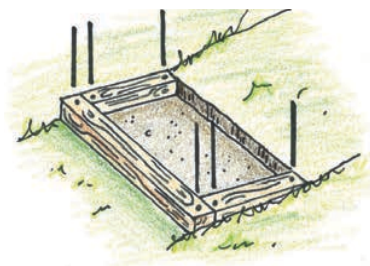

Figure 4
as long as the step width and two timbers as long as the step depth for the side timbers (remember that each step should extend six inches past the next step's riser.) Drill  $\frac{1}{2}$ -inch diameter holes approximately six inches from the ends of each timber (Figure 4).
**STEP 5 – Position timbers.** Position the timbers in the step and remove or add soil as needed to level them (Figure 4).
**STEP 6 – Anchor timbers.** Drive the steel rebar through the drilled holes on the end of each timber and into the ground. Make sure the rebar is level with the timber surface, or slightly recessed, since the edges may be sharp (Figure 4).
**STEP 7 – Dig and level inside step.** Shovel out the soil inside the step to create a surface roughly level with the bottom of the timbers. Additional soil can be removed to provide more area for infiltration if desired. Make sure to dispose of excavated soil in a place where it will not wash away (Figure 4).